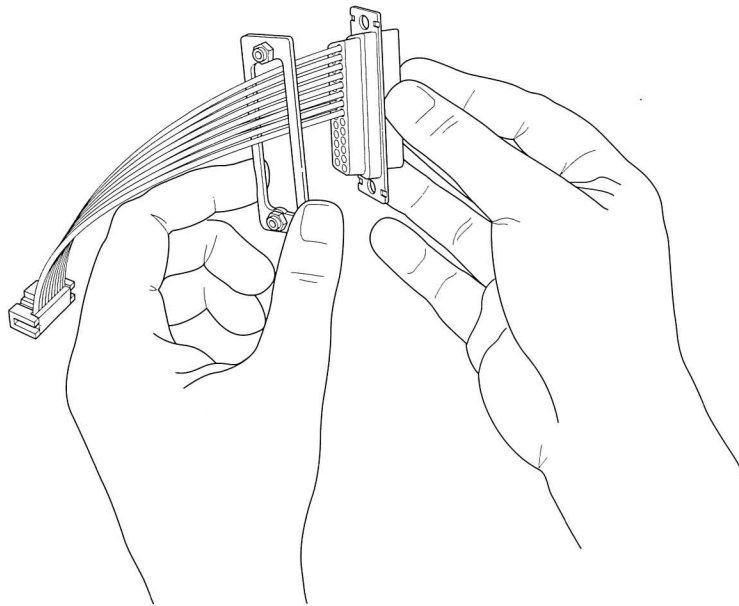

Figure 4-9 Sliding the nut plate onto the ribbon cable
1. Slide the nut plate onto the ribbon cable as shown in Figure 4-9.